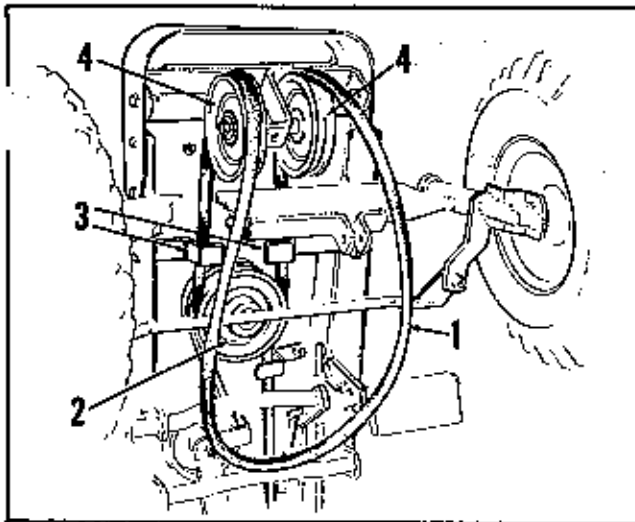

Figure 2.
2. Place rotor drive belt (1), Figure 2, in position on the lower groove of the engine pulley (2), Figure 2, as shown. Figure 2 is an illustration of the tractor underside). Note the position of the belt in relation to the belt-guide fingers (3), Figure 2. After passing around the engine pulley and between the belt-guide fingers, give the belt a suitable "twist" that it may fit properly to the groove of the power take-off pulleys (4), Figure 2.